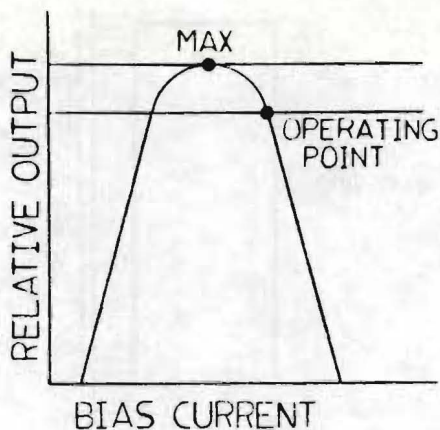

Figure 4-13, Overbias Point
- c. Place the slave into the READY mode and start the transport in the FORWARD condition. With the portable test head in place, adjust the appropriate bias level control to locate the bias peak. Continue turning the control clockwise until the overbias point recommended by the tape manufacturer is reached (see Figure 4-13).